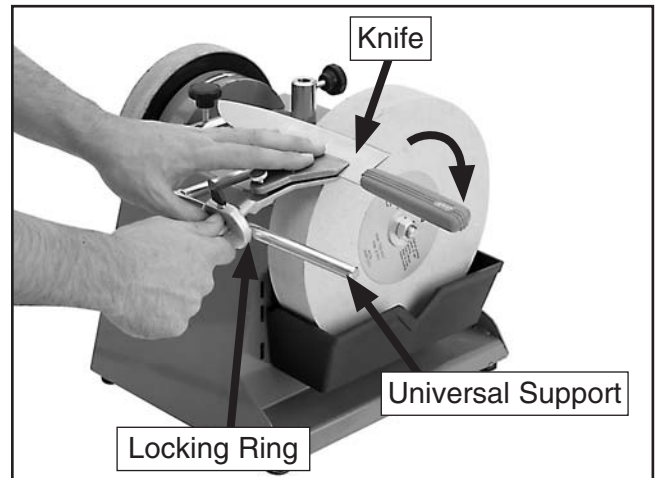

Figure 8. Knife sharpening.
7. Adjust the position of the locking ring to fine tune the grinding/stropping angle (**Figure 8**).